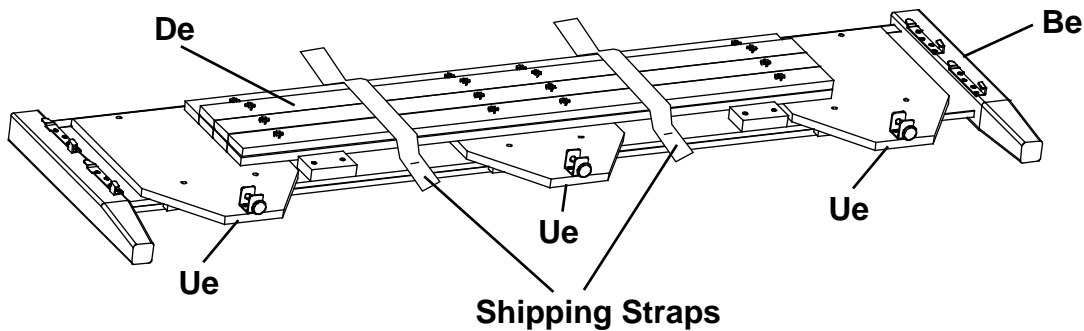

Fig. 1
1. Remove the Trestles (De) and Assembled Feet (Ue) from the backs of the Footboard (Be) and place them off to the side. See Figures 1 and 1a.